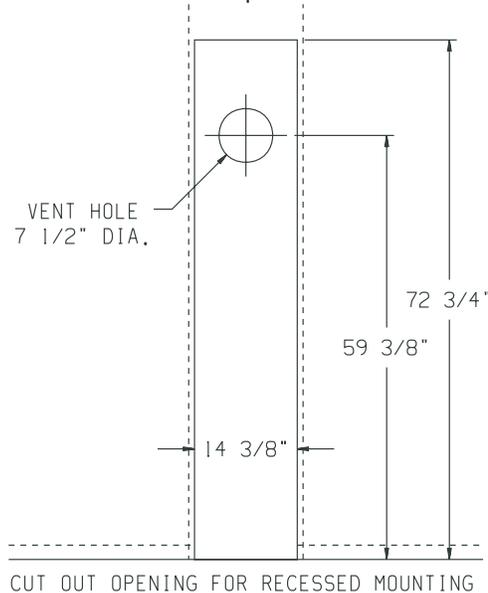
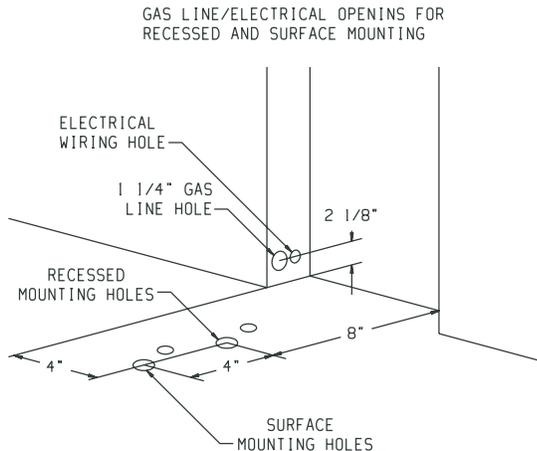

Figure 5
Figure 7
The furnace is to be located on an outside wall. Locate wall studs so that wall opening will be located between wall studs. The furnace is 14 1/8" (358mm) in width and can be recessed between standard 16" (406mm) on center wall stud. The wall opening required as shown in **Figure 5** is a diameter of 7 1/2" (191mm). Locate and cut wall opening. If there is insulation above the wall opening (air inlet tube) a barrier should be installed above the wall opening (air inlet tube) to prevent insulation from coming in contact with the air inlet tube. The barrier must not penetrate into the 7-1/2" (191mm) diameter wall opening.
A template is provided in furnace carton for positioning furnace on the wall. Also, refer to **Figure 5** and **Figure 7** for positioning the furnace on wall and for locating gas line connection.
Refer to Figure 5 for the location of the 7 1/2" (191mm) diameter wall opening for the furnace. After the wall opening has been located and cut, position flue outlet on furnace in center of wall opening. When attaching furnace to the wall, remove that portion of baseboard and molding on the wall which is behind the furnace. Attach furnace to wall, at the outer casing top, with (2) toggle bolts provided and to floor, at the out casing bottom, with (2) #10 x 1 1/2" (38mm) screws provided.